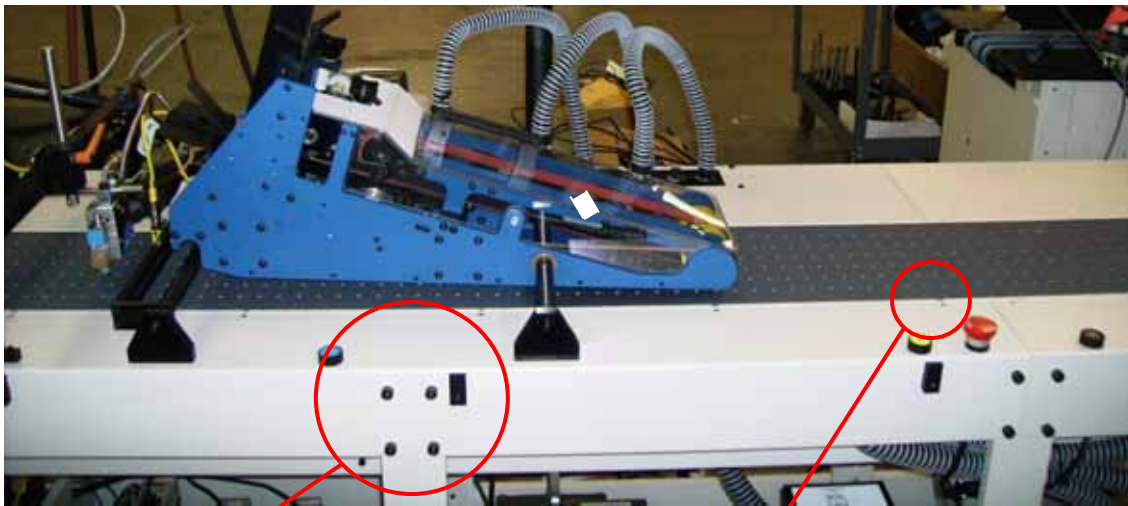

Figure IV-8
13. Detach all top side covers on attacher base by removing the Allen socket head screws located on each vertical surface of the covers and the Phillips-head countersunk machine screws located on each horizontal surface of the covers. See figure IV-8. Remove covers and set aside.